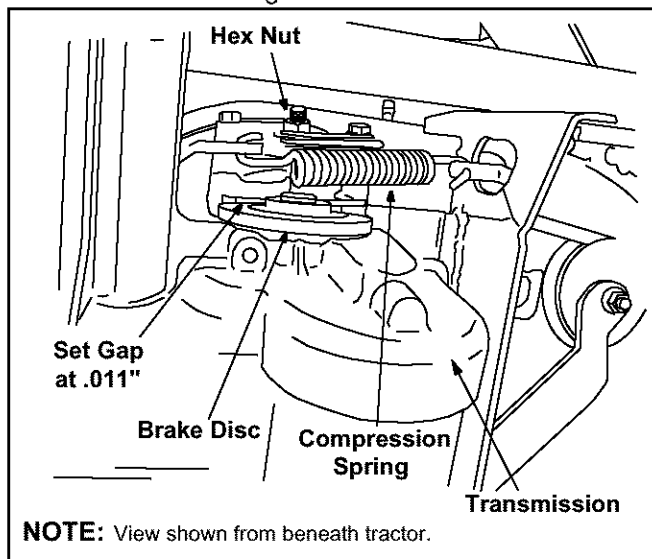

Figure 10
- Looking at the transmission from the right side of the tractor, locate the compression spring and brake disc. See Figure 10.
- Loosen, but do NOT remove, the hex nut found on the right side of the brake assembly. See Figure 10.